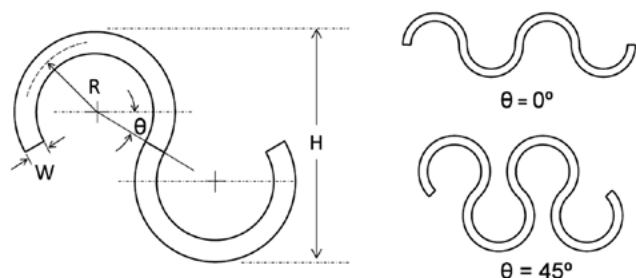

Figure 9: Horseshoe shaped meander with relevant design parameters.
A critical factor in the use of stretchable interconnections is the design of copper meanders. Extensive modelling was performed to minimize stress and strain concentrations in the meander under deformation. The current meander shape of choice is the horseshoe shape, as shown in Figure 9. A horseshoe-shaped meander is a connection of circular segments, offering a good compromise between sufficient stress distribution along the meander on one hand, and ease of design and circuit layout on the other. For minimal stress the width (W) of the track should be as small as possible. The minimum width is determined mainly by technological constraints. During the cycling elongation of the stretchable circuit, a permanent deformation or plastic strain is induced in the metal causing a fatigue failure. Therefore, in order to improve the fatigue reliability of the stretchable interconnect; the plastic strain has to be minimized.